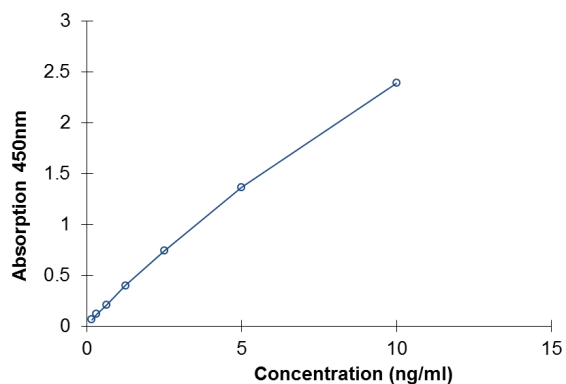

Fig. 9 Representative standard curve for human HSP70 ELISA. Human HSP70 was diluted in serial 2-fold steps in Sample Diluent.
- A representative standard curve is shown in Figure 9.